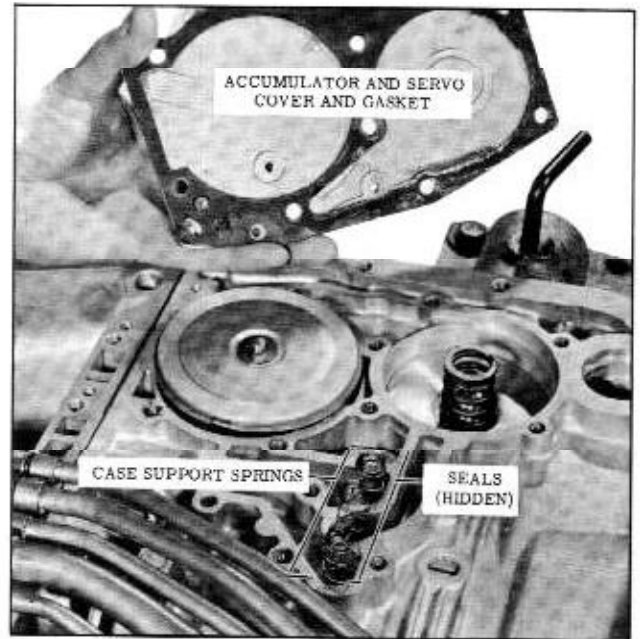

Figure 3-28 Case Support Springs and Seals
11. Remove the 3 case support springs and seals. (Seals may remain in transmission case). (Fig. 3-28)